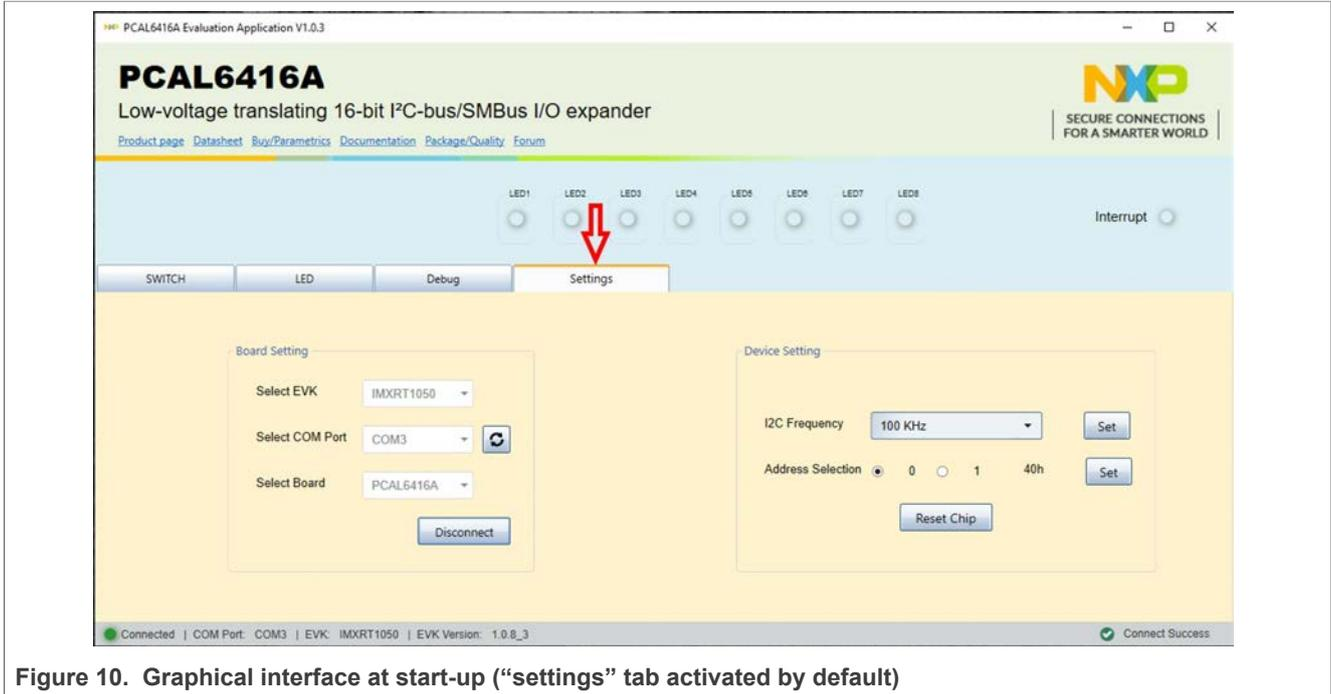

Figure 10. Graphical interface at start-up (“settings” tab activated by default)
Once installation is complete, assure that one of the mentioned three EVKs with attached PCAL6408A-ARD daughter board is connected to PC and powered-on. Open NXP_(PCAL65x4,PCAL64xxA) GUI application. An interface will appear as is shown in Figure 10:
- **Select Board:** allows the user to select the correct daughter board (the application can support four different boards). In Figure 10, the selected board is PCAL6416A. Selecting a wrong daughter board causes the connection to fail and a pop-up window with the message: *“Unable to Connect with Daughter Card”* appears on the screen.